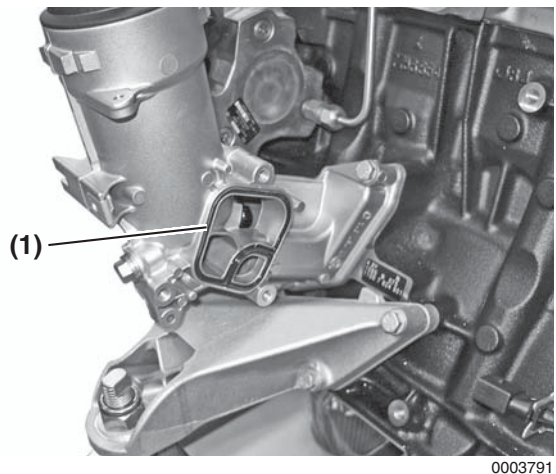

Figure 8-11
- Install a new seal (Figure 8-11, (1)) in the oil filter housing.